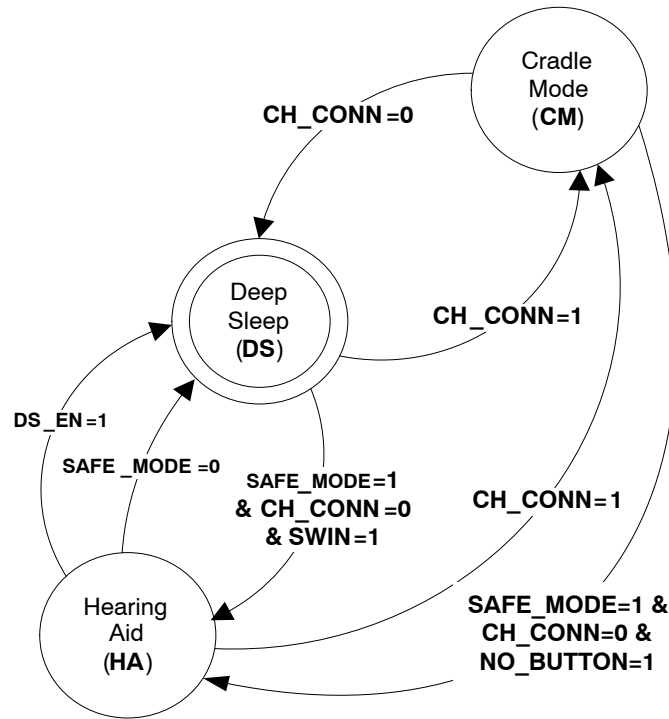

Figure 3. HPM10 State Machine
**Shutdown Warning:** When the hearing aid is placed in the Cradle, the output pad WARN signals the DSP that the power will soon shutdown. This signal is a level-shifted copy of the analog signal ‘CH\_CONN’ (see Figure 3).